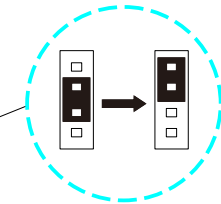

Fig 6.6B
**Notice:** When multiple inverters are connected in parallel or the transmission distance is long, it is recommended to change the jumper cap of CN5 pin header on the Connector Board of the last inverter from the default 2/3 pin to 3/4 pin (As shown in Fig.6.6B) . The reason for this is to increase the matching resistance.